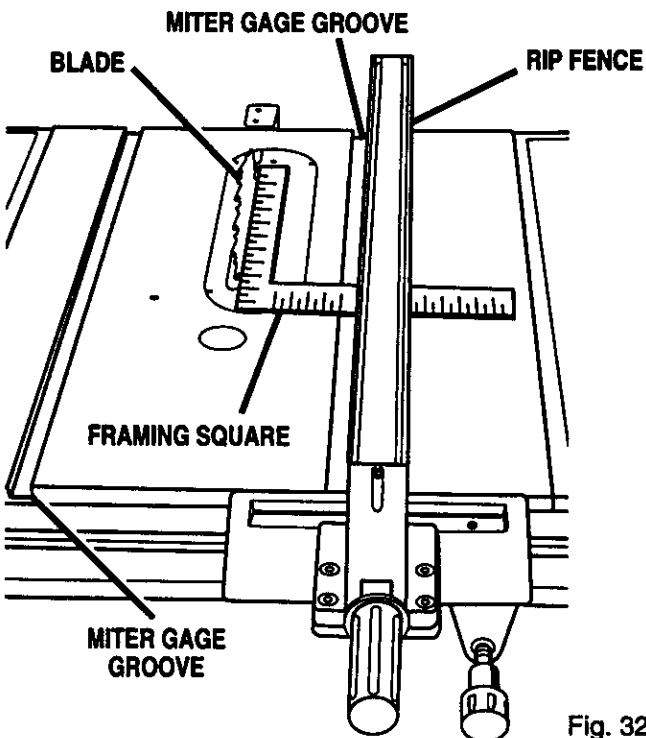

Fig. 32
See Figures 32, 33, and 34.
- Place a framing square against the blade, with the long end under the rip fence at the front. See Figure 32. Note the distance.